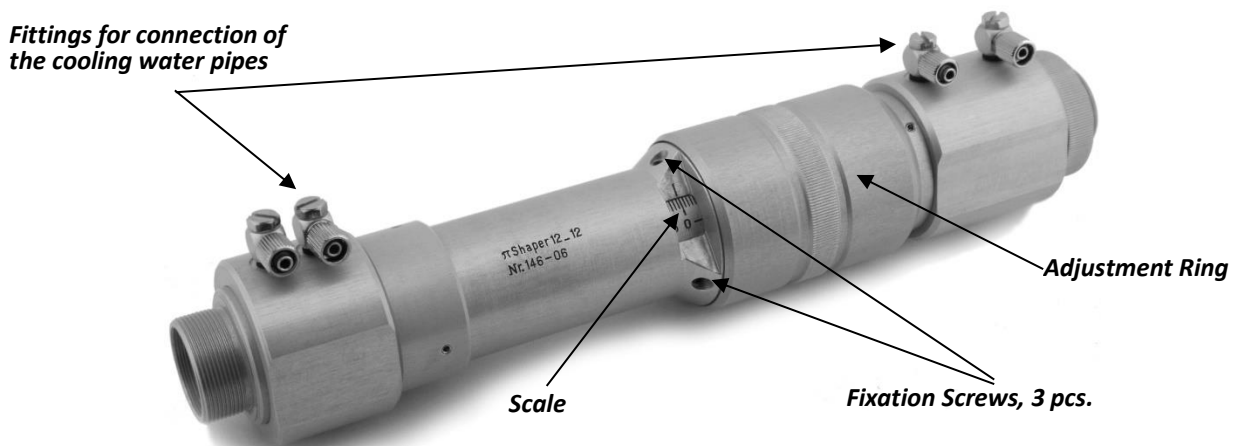

Figure 8. Water cooled  $\pi$ Shaper.
- 2) Connection of pipes of the water cooling system should be done through the fittings, see Fig. 8.